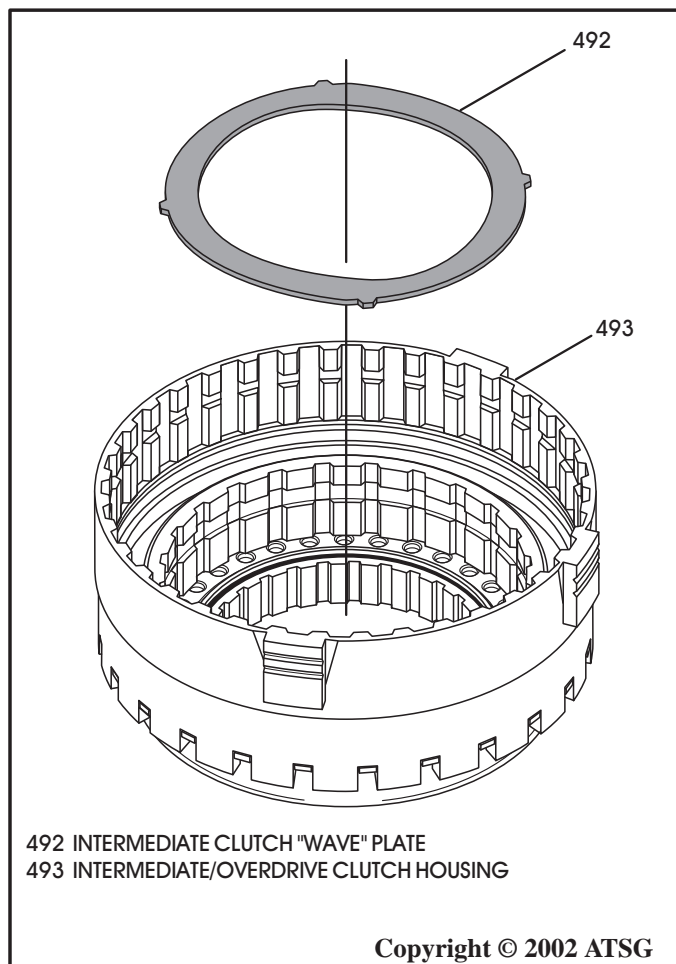

Figure 118
8. Turn overdrive housing over and install "Wave" plate, as shown in Figure 118.